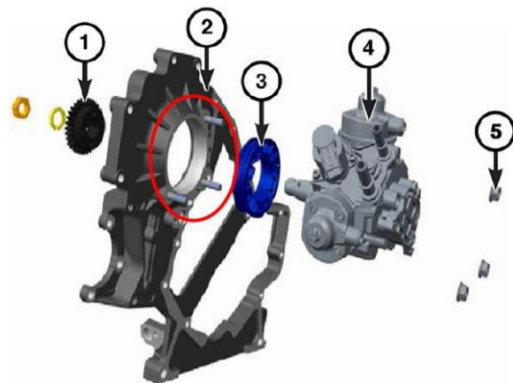

Figure 19 – Fuel Pump Mounting Studs
1. Remove the fuel pump mounting studs in the front gear housing (these will not be reused) (Figure 19).
- a) Take one of the fuel pump mounting nuts (5) and thread it on one of the fuel pump mounting studs with the hex head facing the front gear cover.